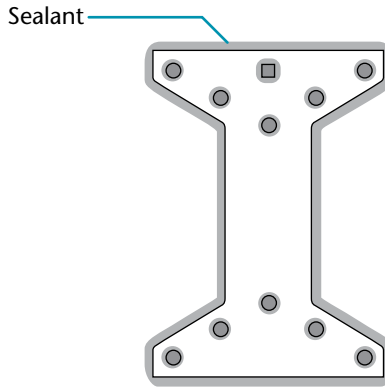

Figure 4-38. Applying sealant onto base plate
12. While holding the base plate in place, apply silicon sealant onto the six pilot holes and around the bottom edge of the base where it contacts the mounting surface (see figure 4-38). Doing so will prevent water from seeping into your house.